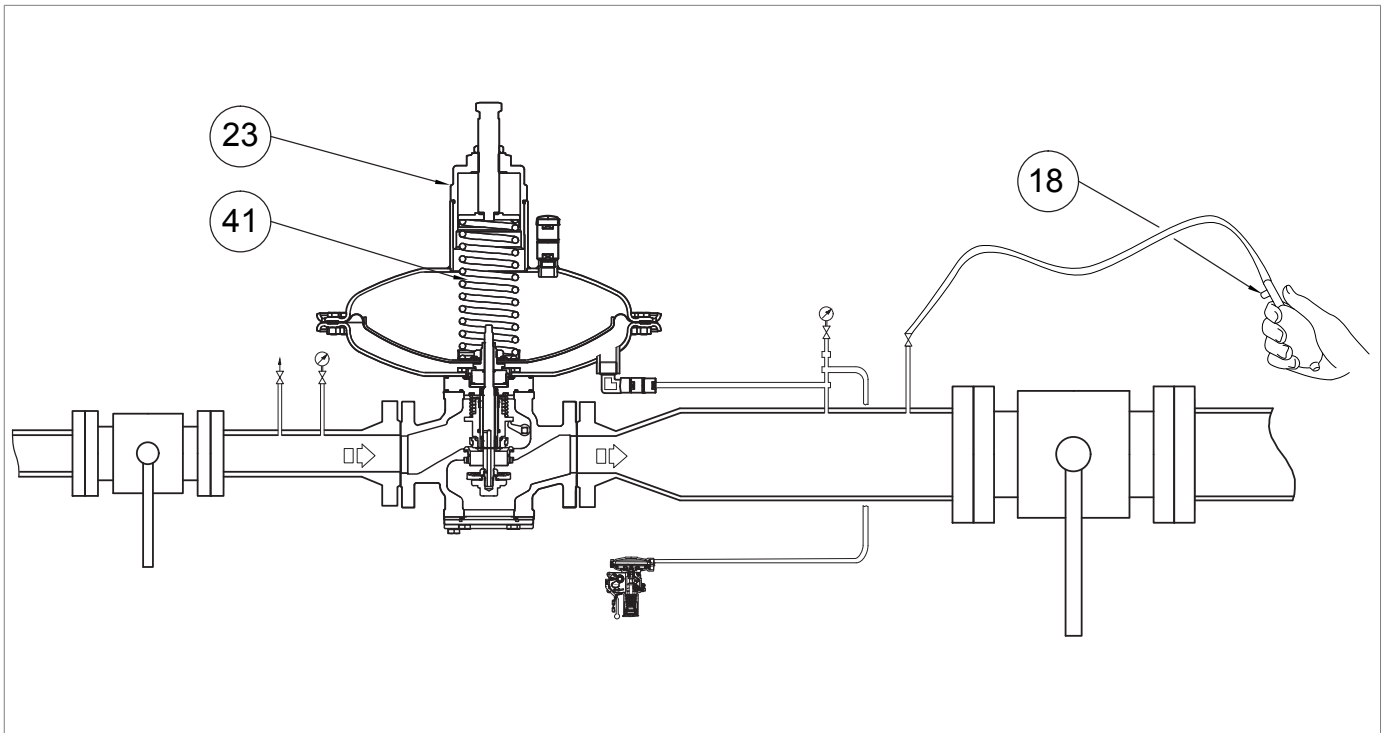

Fig. 8.24 - Pressurising with external source for incorporated SN slam-shut valve
3	<p>If necessary, remove the closing cap (fig. 8.24, ref. 23) together with the adjustment screw and remove the regulation spring (fig. 8.24, ref. 41).</p> <div style="border: 1px solid black; padding: 5px;"> <p>! NOTICE!</p> <p>Check the tripping pressure value of the slam-shut valve indicated on the downstream pressure gauge (fig. 8.19, ref. 5).</p> </div>
5	<p>After having checked that the slam-shut valve trips at the preset value, proceed as follows:</p> <ol style="list-style-type: none"> Close the bleed cock (fig. 8.19, ref. 6) Position the regulation spring (fig. 8.24, ref. 41), the closing cap (fig. 8.24, ref. 23), and adjustment screw (fig. 8.19, ref. 3) Slowly open the upstream shut-off valve (V1) until the downstream pressure value (Pd) reaches the calibration value of the regulator, referring to the downstream pressure gauge (fig. 8.19, ref. 5) Close the upstream shut-off valve (V1) Slowly and partially open the bleed cock (fig. 8.19, ref. 6) to decrease the downstream pressure referring to the downstream pressure gauge (fig. 8.19, ref. 5) until it reaches the minimum pressure tripping value Check the minimum pressure spring for proper calibration by repeating steps 2-3-4 at least three times Calibrate the main regulator referring to par. 8.5